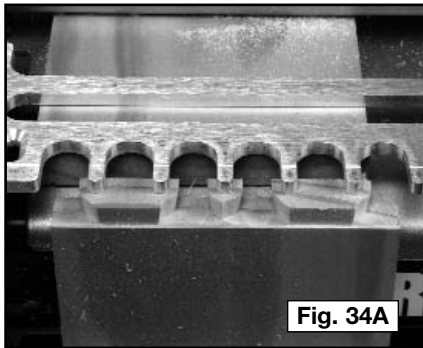

Fig. 34A
**Step 2** - Cut only between the fingers where you want the pins to be (Fig. 34A).